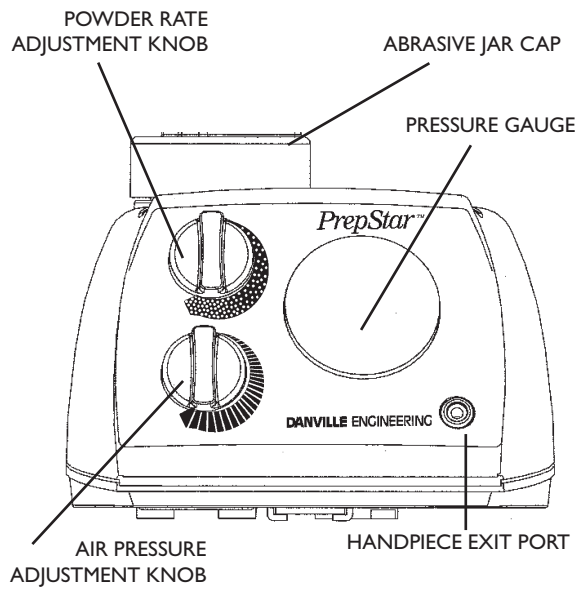

Figure 4.1
B. Abrasive jar: Clean threads and o-rings. Lightly lubricate o-rings with petroleum gel (see Fig. 4.1).